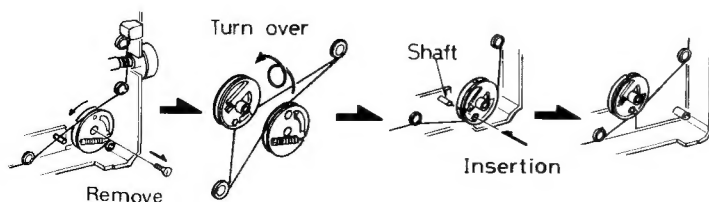

Fig. 3
- 1) Remove 2 switch knobs (5) and (6) (Band selector switches).
- 2) To remove the Amp. P.W. board assembly, remove 4 screws (7), (8), (9) and the dial cord, or see fig 3.
(7) SPSH1730M
(8) VKZ4013-001
(9) SBSF2606Z